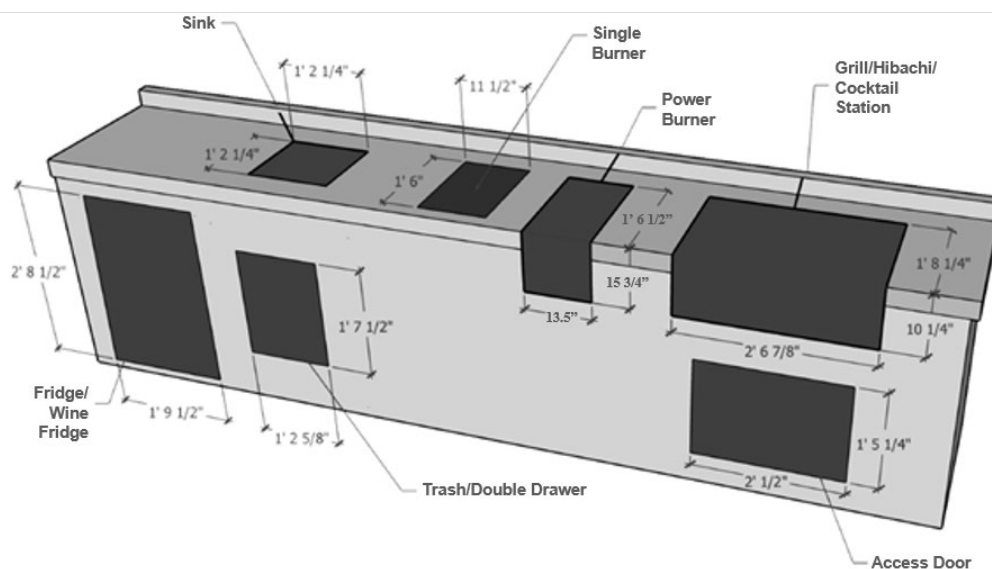

Figure 2 Sample Island Setup
- If the appliance is installed into an island, ensure proper clearance and ventilation, and do not cover the unit with a door; sample island installation shown in Figure 2